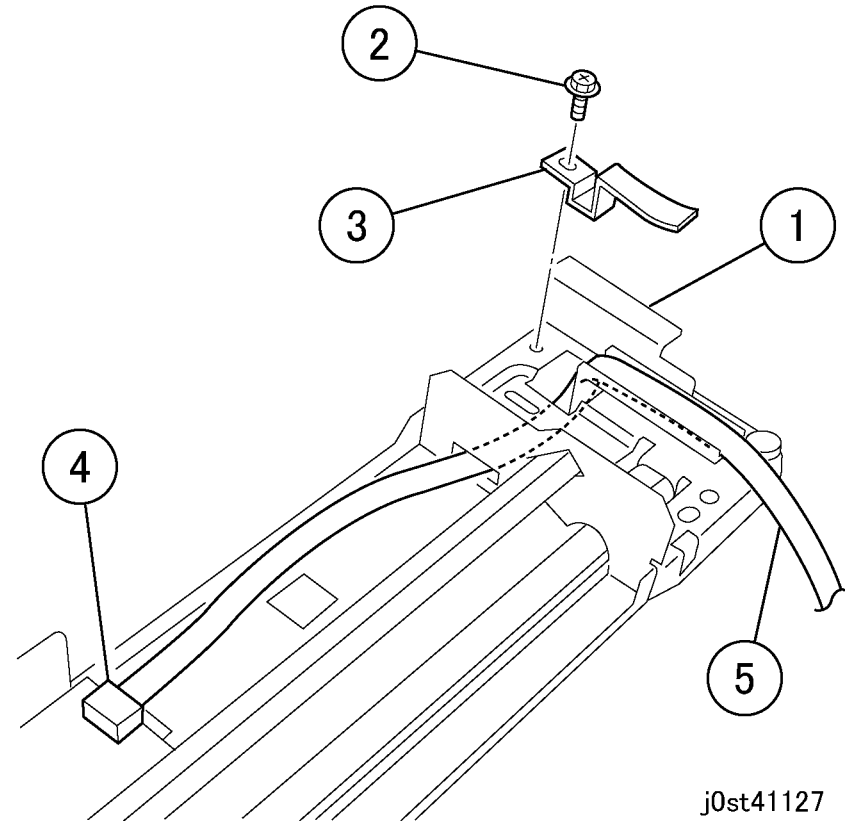

Figure 4 Removing the Lamp Wire Harness (j0st41127)
6. Remove the Lamp Wire Harness from the Full Rate Carriage. (Figure 4)